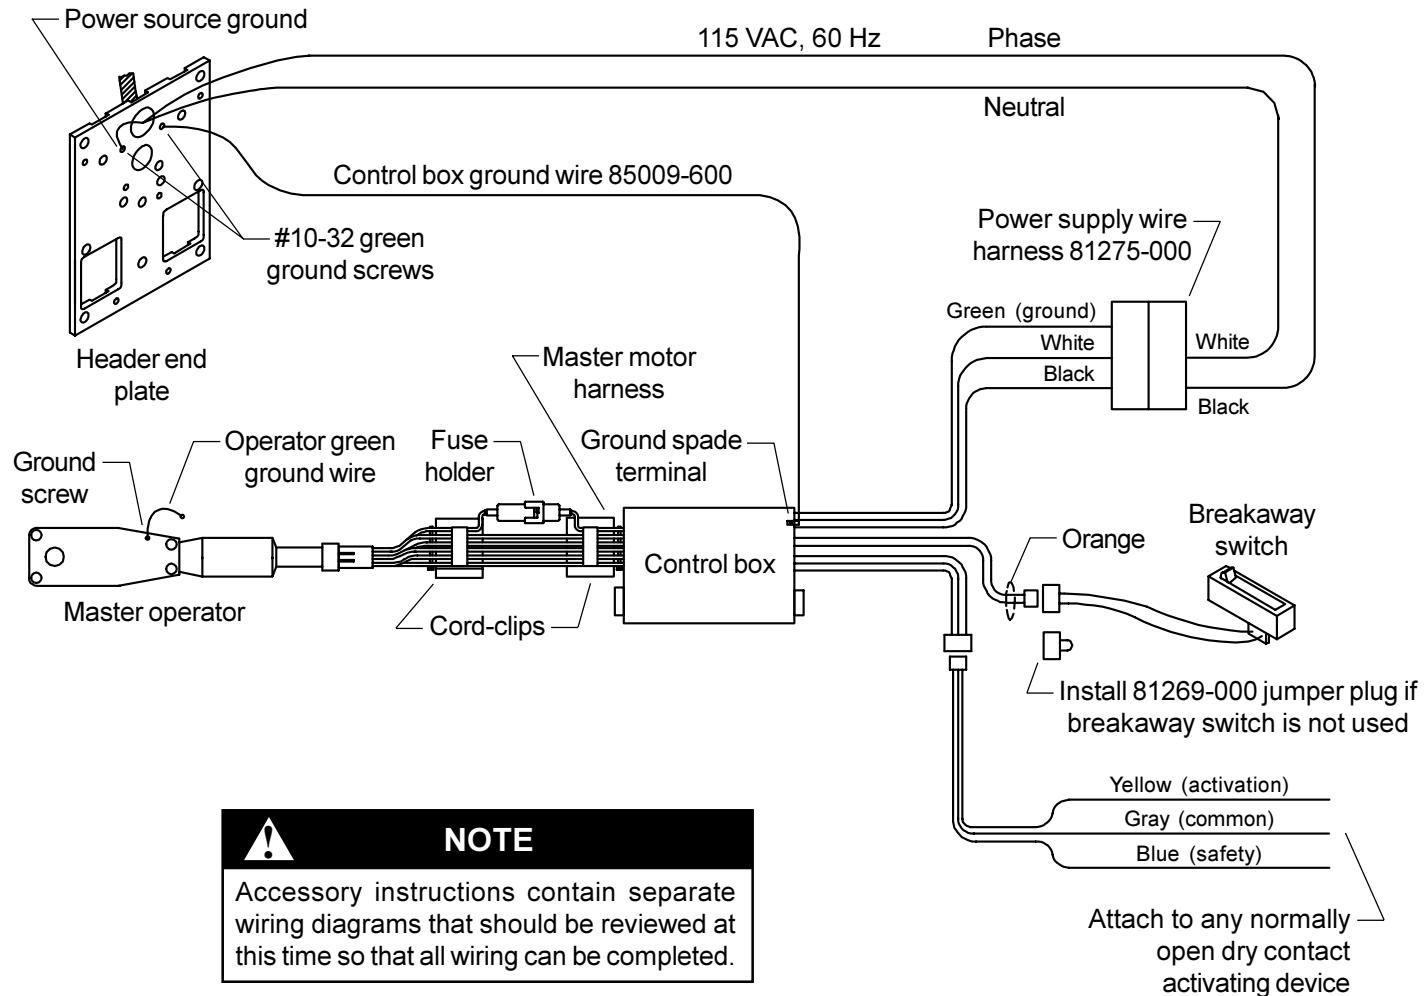
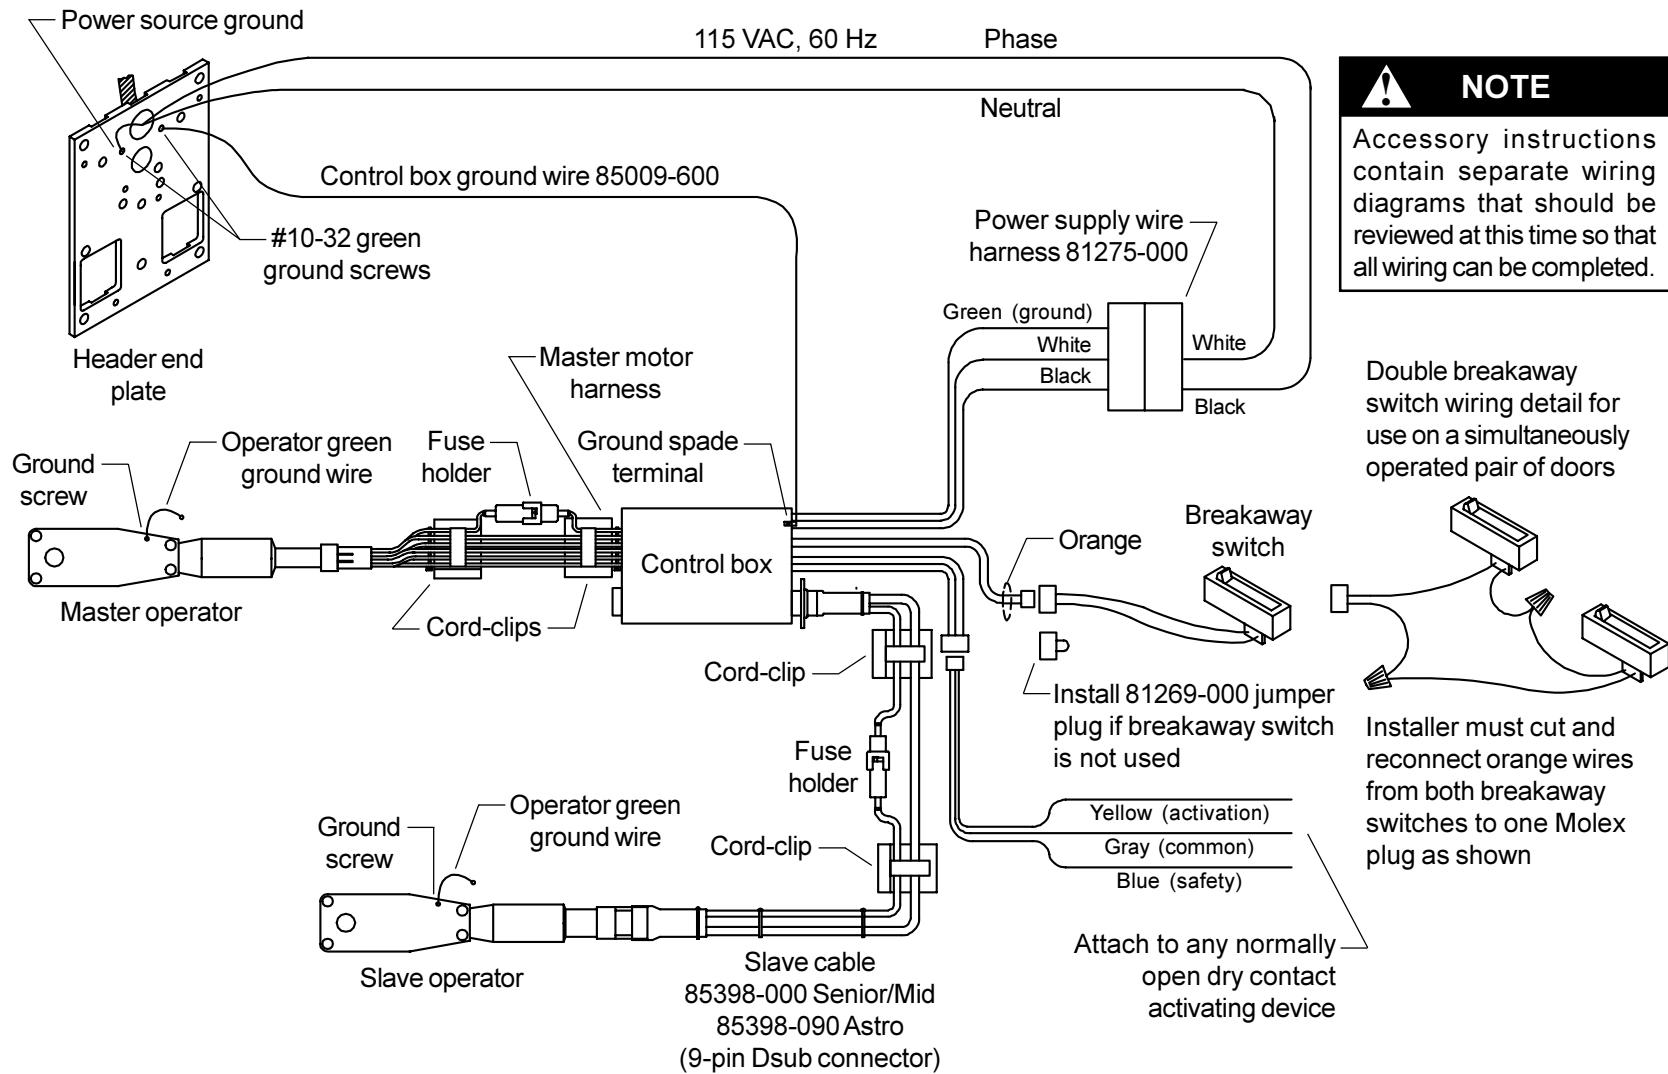

Figure 9-2
Figure 9-3
- 9.3. Connect the four remaining connectors (see Figure 9-2 for a single operator or Figure 9-3 for a double operator). The arrangement of the plugs and receptacles prevents incorrect joining.